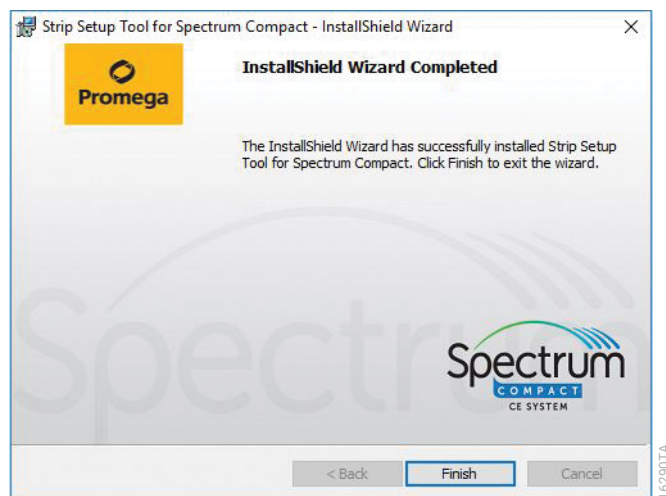

Figure 223. 'InstallShield Wizard Completed' window.
- The InstallShield Wizard Completed window is displayed (Figure 223) upon successful installation of the tool. Select **Finish** to exit out of the InstallShield window.